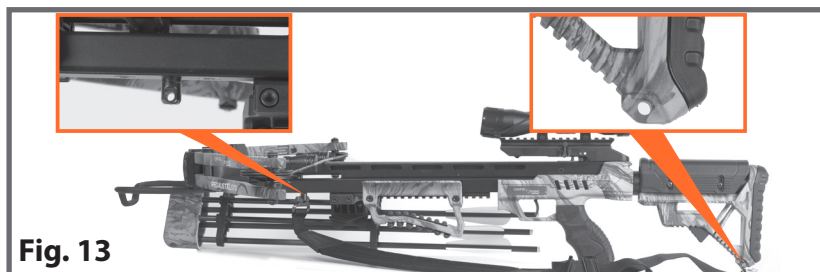

Fig. 13
1. Attach the shoulder sling (available on some models) to the sling studs. Loosen the spring loaded thumb screw on the swivel and then press it to unlock the latch. (Fig. 13)